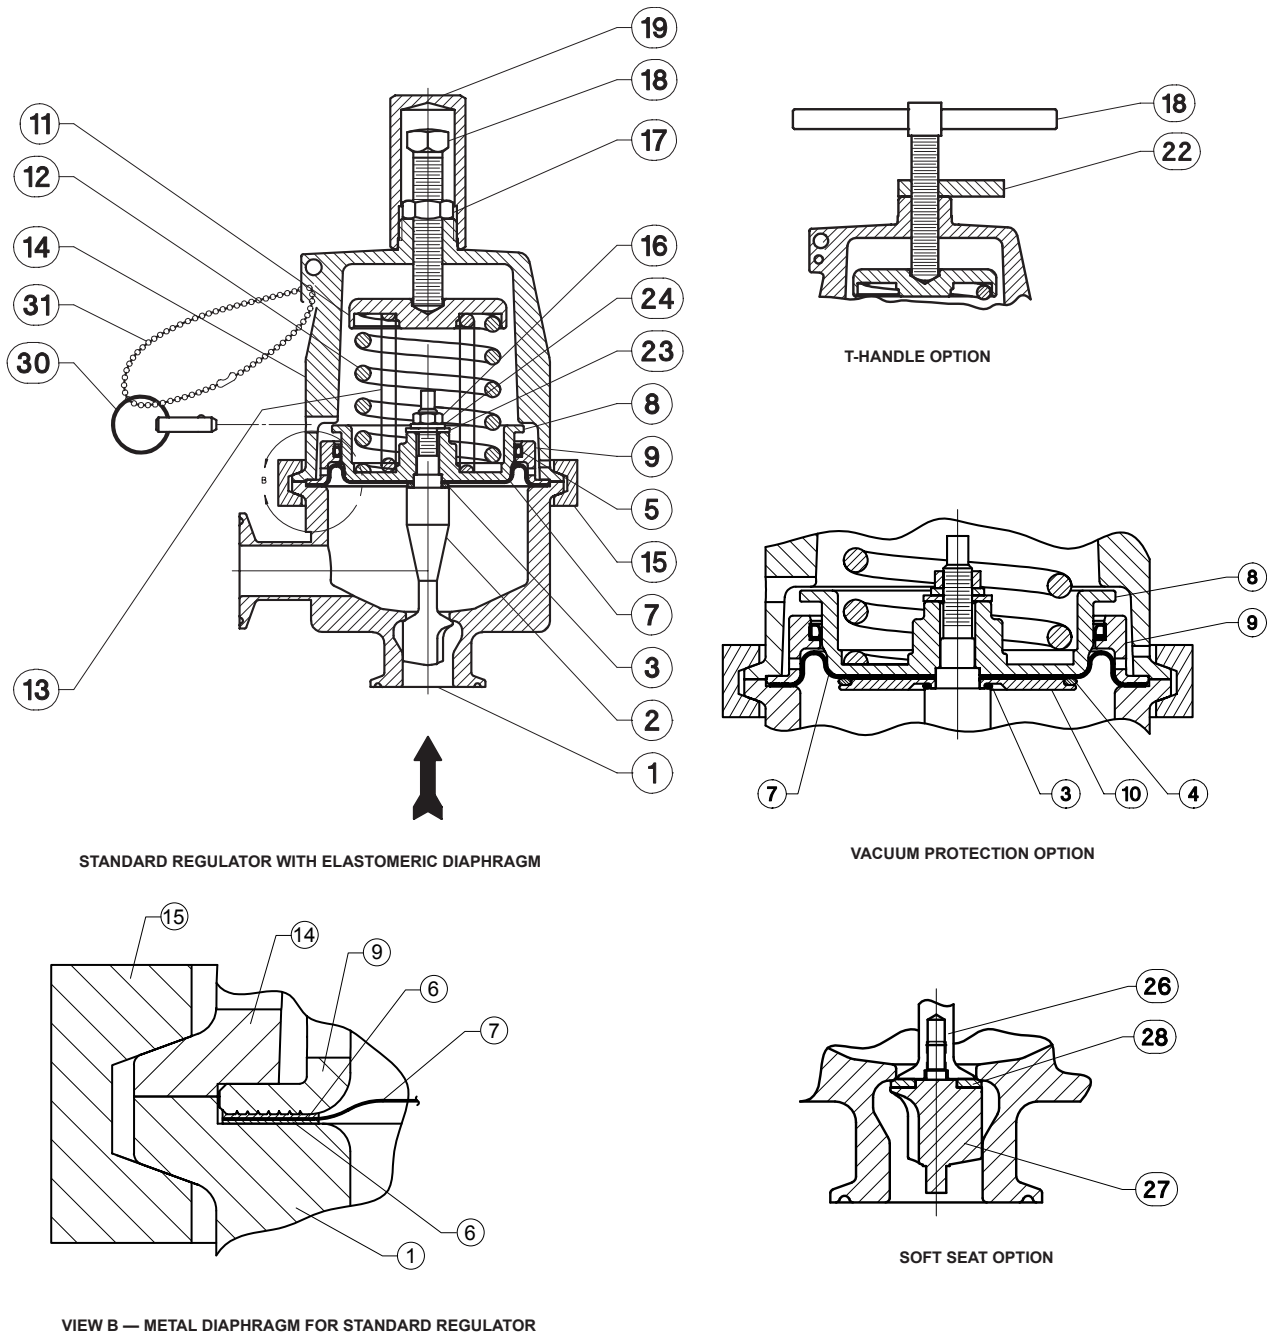

Figure 1. Type SR5 Sanitary Regulator Assembly
The regulator is factory set at approximately the midpoint of the spring range or the pressure requested, so an initial adjustment may be required to give the desired results. **Make sure the CIP/SIP Pin (key 30, Figure 1) is not installed in the spring case.** With proper installation completed and relief valves properly adjusted, slowly open the upstream and downstream shutoff valves.
**To avoid personal injury resulting from sudden release of pressure, isolate the regulator from all pressure before attempting disassembly. Relieve all spring compression and isolate regulator from the pressurized system prior to removing the clamp (key 15, Figure 1).**